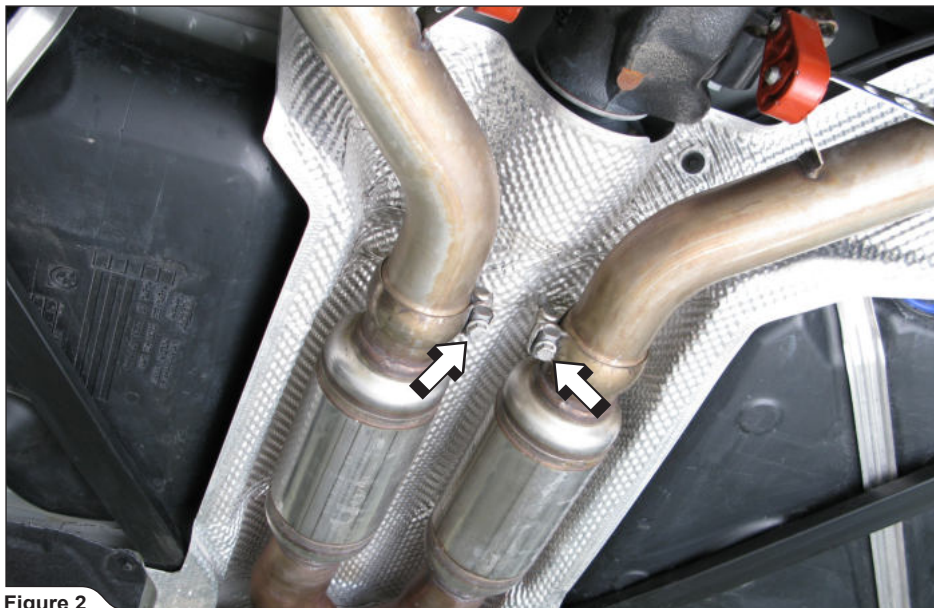

Figure 2
2. For Slip-On and Evolution: unscrew the marked clamps (Figure 2).